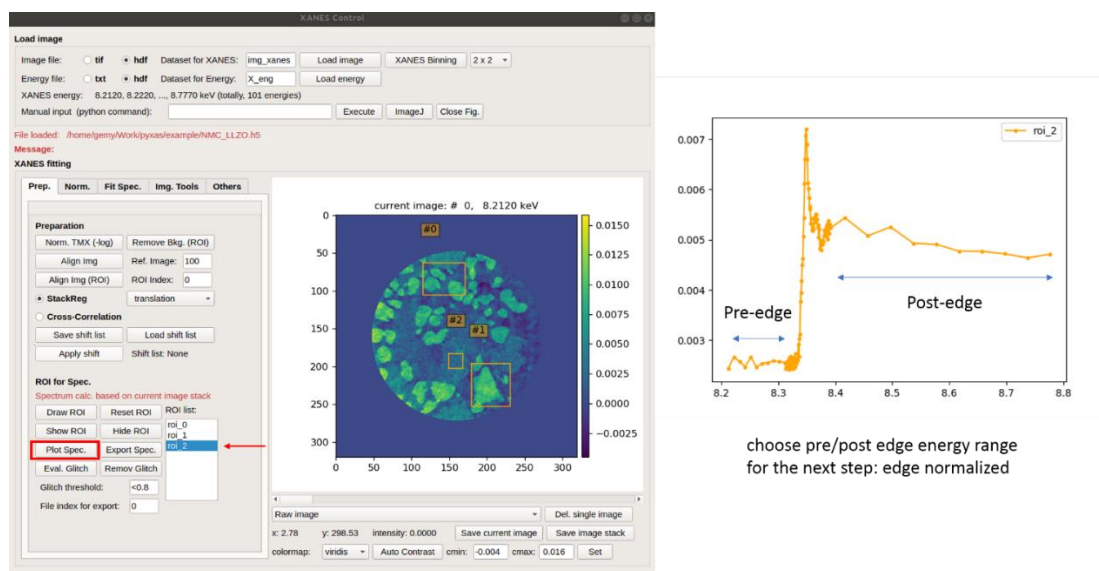

Fig. 2. Draw ROI and plot the spectrum, determine the energy range for pre/post absorption edges.
2. Check energy range of pre-edge and post-edge (**Fig. 2**)